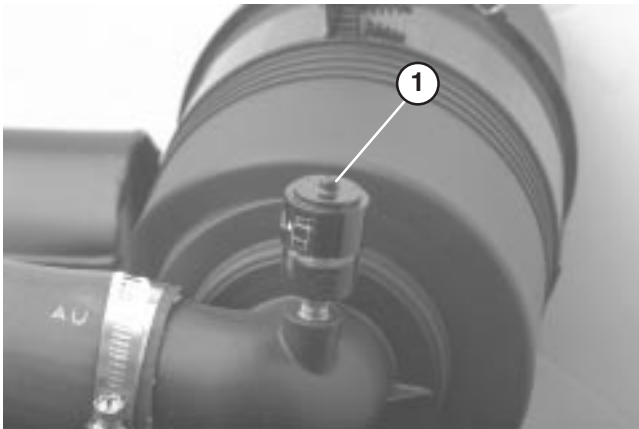

Figure 37
2. Service the air cleaner filters when ever air cleaner indicator (Fig. 37) shows red or every 400 hours (more frequently in extreme dusty or dirty conditions). Do not over service air filter.
7. Reset indicator (Fig. 37) if showing red.